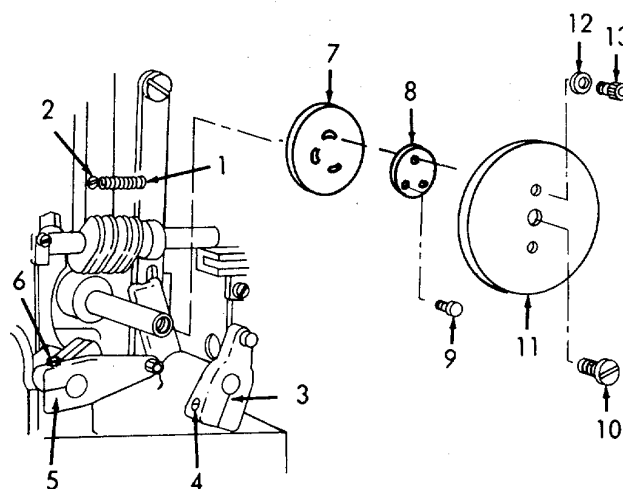

Figure 6-156. Cam and Cam Arms, Installation.
- (11) Refer to Figure 6-156. Install spring (1) and two screws (2).
- (12) Install rear cam arm (3) and tighten setscrew (4).
- (13) Install front cam arm (5) and tighten setscrew (6).
- (14) Install small cam (7), plate (8), and three screws (9). Be sure that the timing mark on the cam is alined with the timing mark on the gearshaft.
- (15) Install large cam (11), two washers (12), and two screws (13). Be sure hole in cam (11) alines with the drilled mark in the small cam (7).
- (16) Install left-hand threaded screw (10).
- (17) When aligning large cam (11) and small cam (7), be sure that the two/four button selector knob and the button clamp vibrator regulator (yellow knob) are both set to their maximum values.